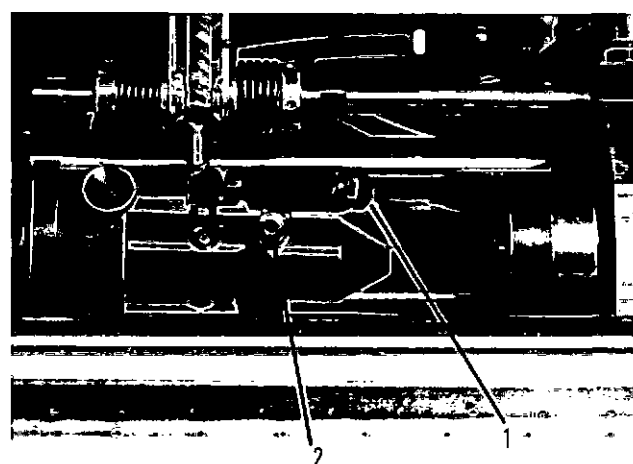

Fig. 4-30. Dummy injector connections
3. Connect the dead weight tester 6 mm fitting and dummy injector connection with the nylon hose, Fig. 4-30.
3. Install the 6 mm plug, removed from the test oil junction block, into the dummy injector connection, (1, Fig. 4-30).